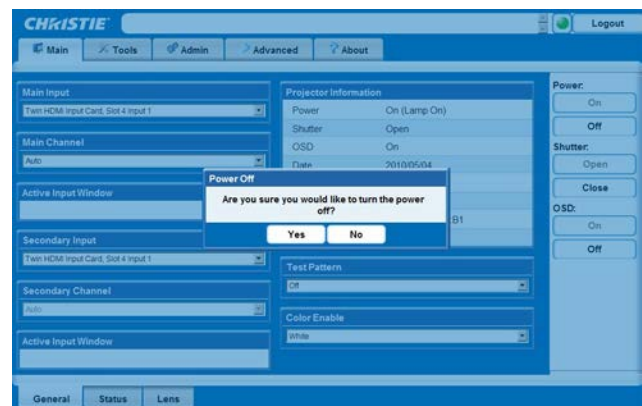

FIGURE 2-10 POWERING DOWN/WEB USER INTERFACE
1. From the **Main** Tab, Select **Power>OFF**. *NOTE: A window will display for confirmation on powering down, see Figure 2-10.*